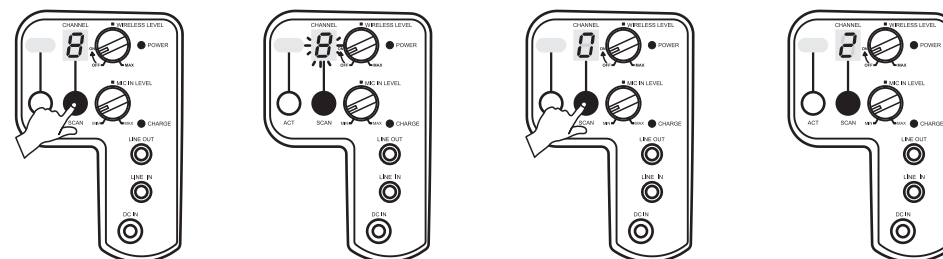

Fig. 2
- Automatic Channel Scan Selection:** Press and hold the Channel SCAN button ⑥ for 1 second to access the SCAN function. Channel indicator blinks and displays current channel. During channel blinking, press and release Channel SCAN button to scan for the best available channel. Once blinking stops, the new channel is saved automatically, See Fig. 2.
- (1) Press & hold SCAN for 1 second
- (2) Current channel displays and blinks
- (3) Press & release SCAN to scan for a clear channel
- (4) New channel is saved